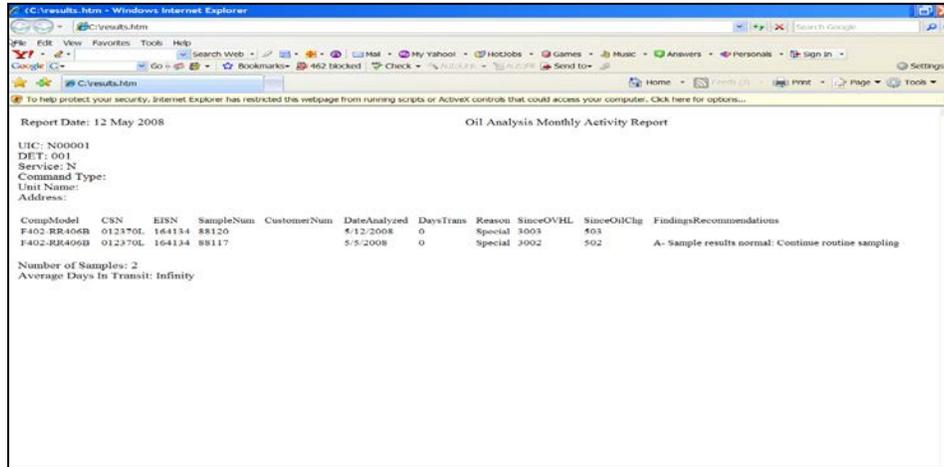

Figure 52. Report
- (1) Use the pull down to select one or more UIC/DETs or no selection will print all UIC/DETs. Sort is service, Command type, UIC, DET order. Page break at each change. Date is required and the pull down will display a calendar.
- (2) Press view report and the following screen will appear (Figure 52). If a UIC has no samples a no records found matching selected criteria box will appear.